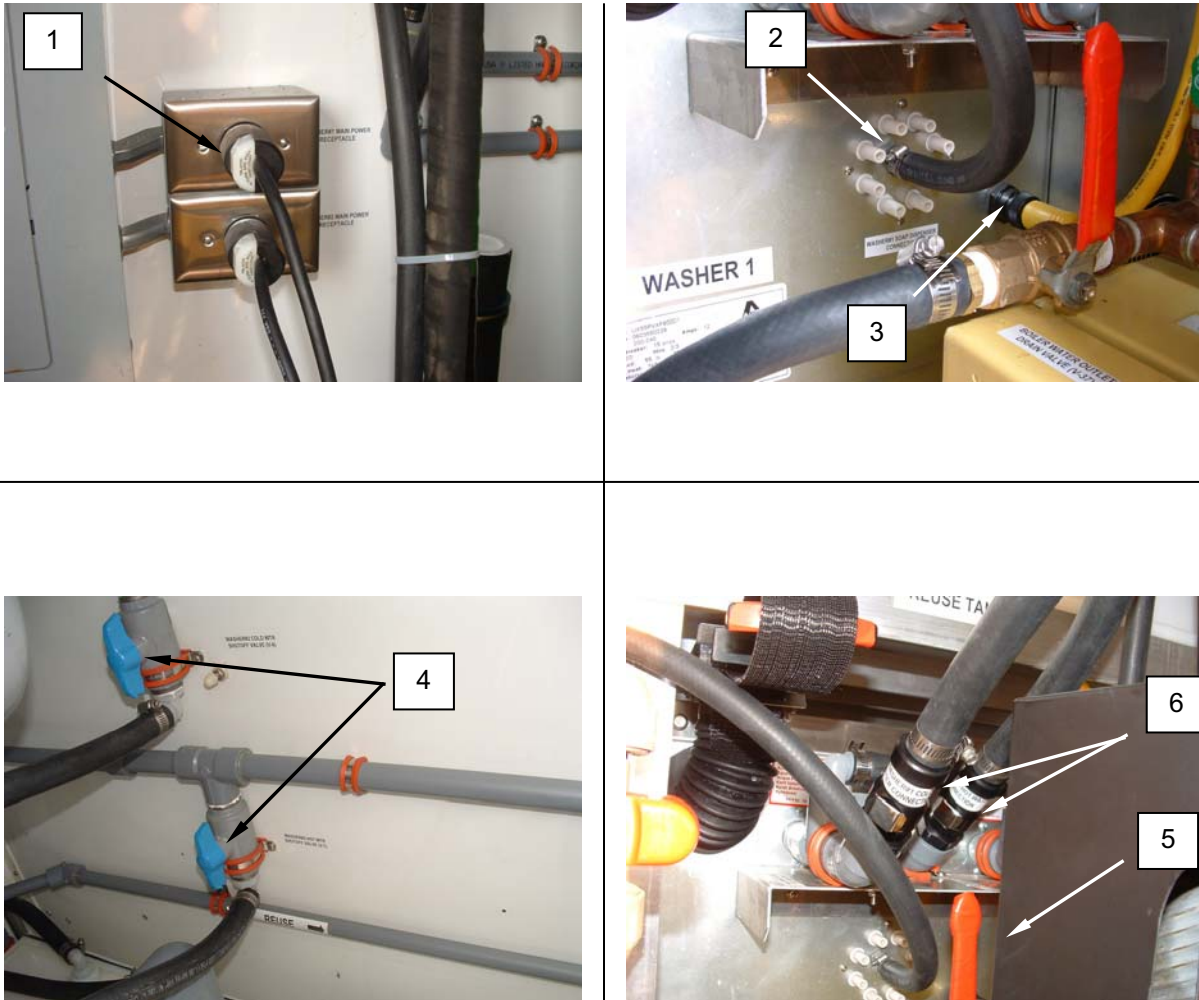

Figure 1. Remove the Washer.
1. Disconnect washer power cord (**Figure 1, Item 1**). Secure the cord to the washer to ensure it will not snap or be damaged when the washer is moved.
2. Disconnect washer soap dispenser tubing (**Figure 1, Item 2**) and soap dispenser control cable (**Figure 1, Item 3**).
3. Close off hot and cold water supply valves (**Figure 1, Item 4**) to washer (**Figure 1, Item 5**).
4. Disconnect hot and cold water supply hoses (**Figure 1, Item 6**) to washer (**Figure 1, Item 5**).